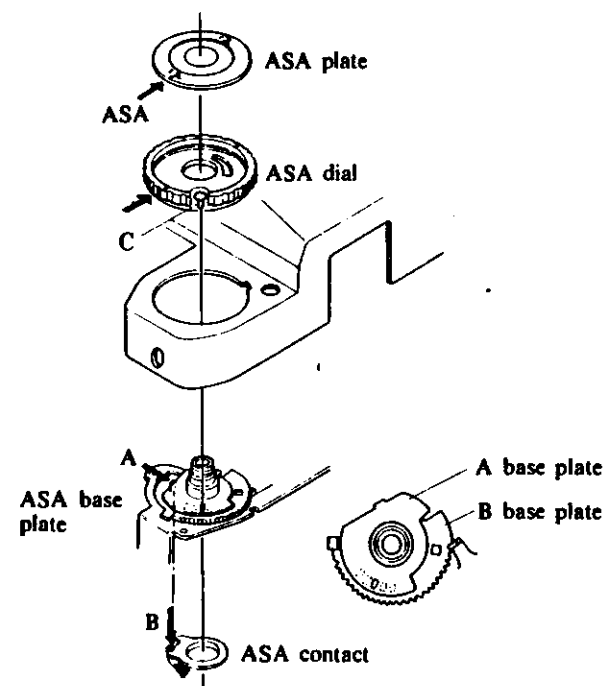

Fig. 6
**5. ASA base plate (sketch No. 2 on page 26) (see Fig. 6)**
**6. ASA dial (sketch No. 25 on page 22) (see Fig. 6)**
Then insert PIN C of the ASA DIAL into the holes of the BASE PLATES A and B (Fig. 6).